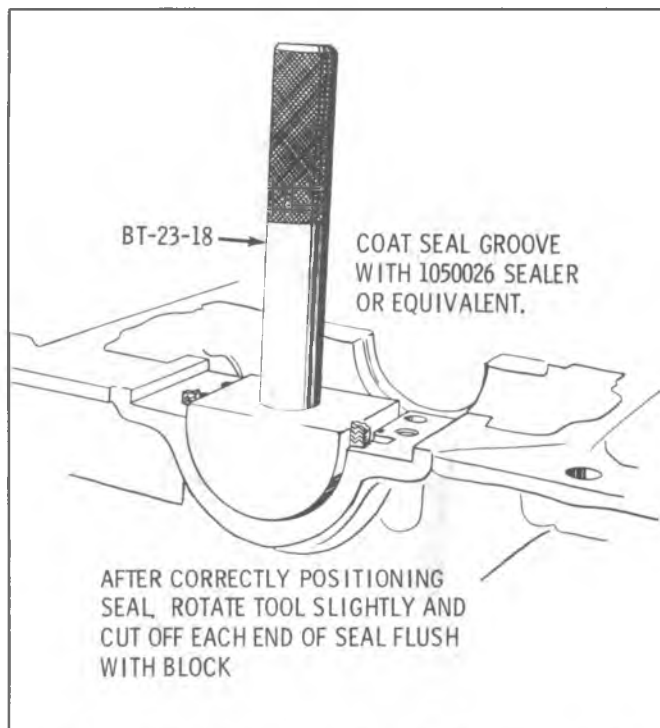

Fig. 6A6-92--Installing Rear Main Oil Seal-Upper Half
3. Install a new rear main bearing seal. (Fig. 6A6-92).